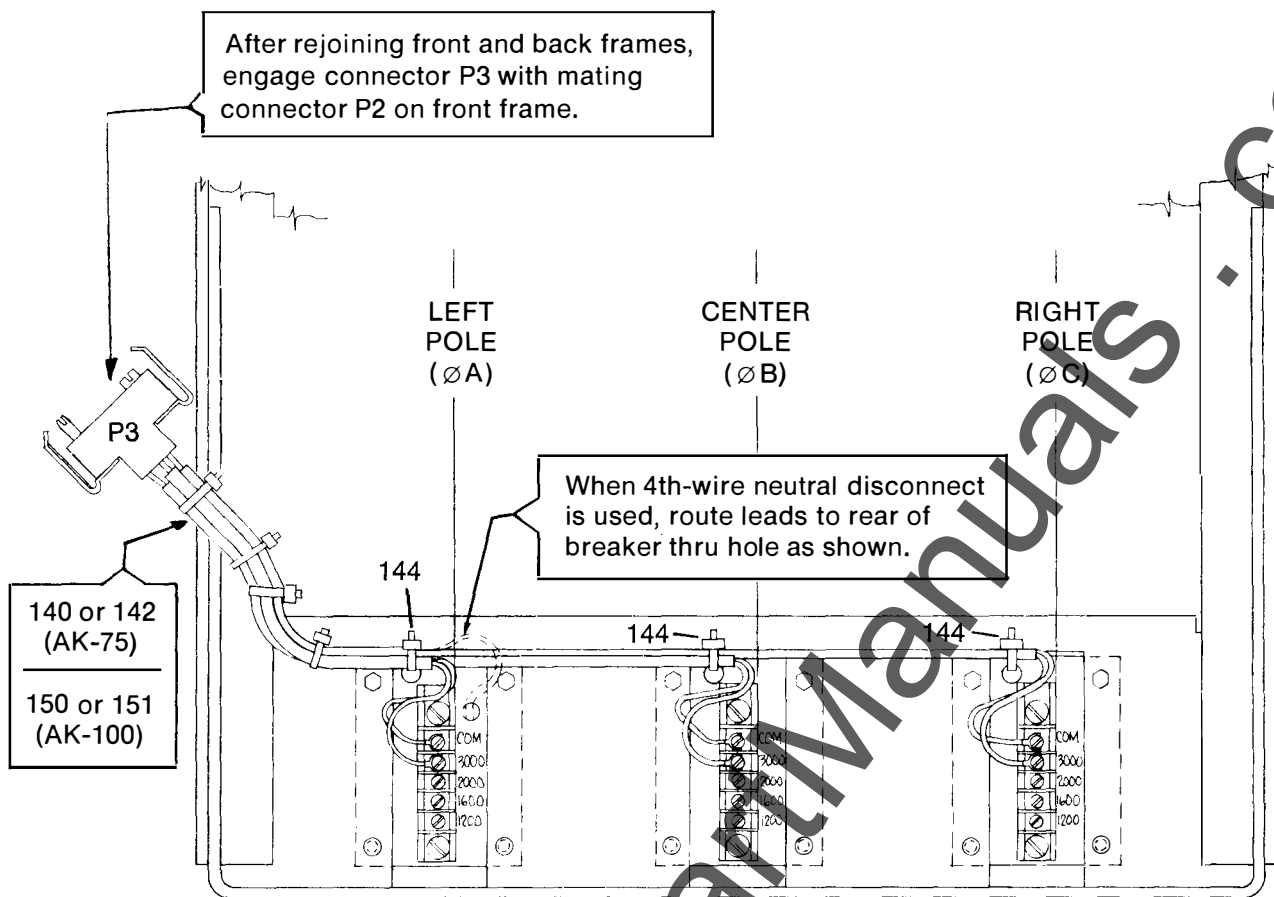

Fig. 14 — Front view of converted AK-75/100 back frame showing sensor terminal boards and harness arrangement.
6. Attach wire harness (part 140, 142, 150 or 151) to the back frame per view B of Fig. 16 or 19, whichever applies. On TB1, TB2 and TB3, position each tap lead (black) on the same selected amp rating. Form and tie per Fig. 14.